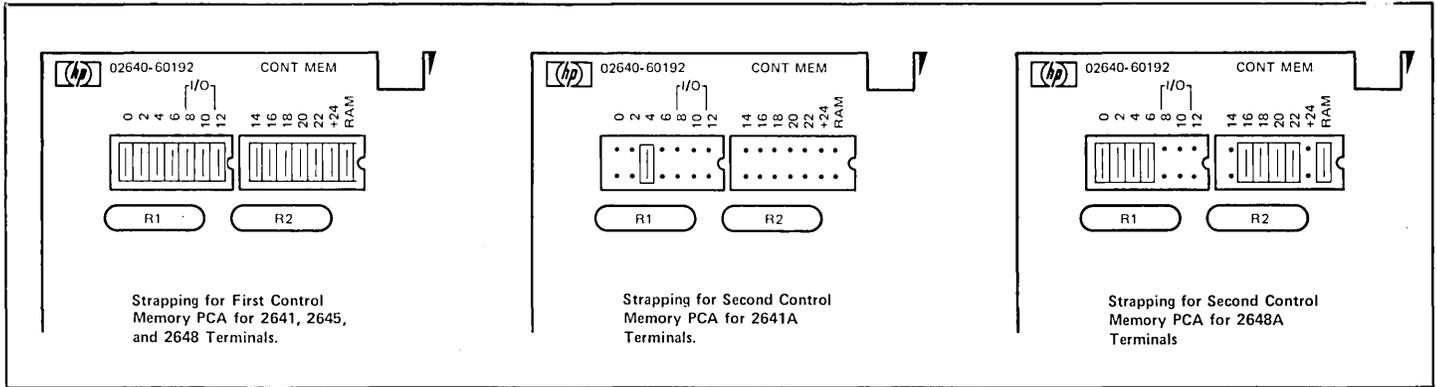

Figure 3-33. Control Memory PCAs Strapping
**PROCEDURE** ..... Strapping for the Control Memory PCAs is standardized as shown in figure 3-33.